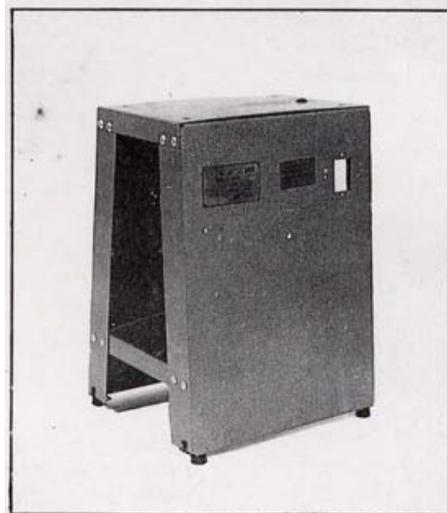

Fig.4
2. Once you have finished with Fig.3, continue to Fig.4 and add the cover (F) to the stand and tighten all the screws.